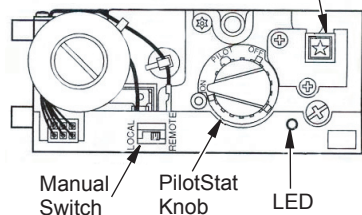

Figure 12 - RF Millivolt Valve Controls with Transmitter/Remote
The RF Millivolt valve control used on these appliances allows you to turn the gas log set on or off; use a timer to automatically operate the log set; increase or decrease flame height, fan speed or timing. An easy-to-read display gives you information about room temperature, set temperature, flame height level, fan speed level and a countdown timer, as well as a low battery indication. Figure 12 shows the location of the controls and indicators for the transmitter (remote) and the receiver (valve).
4. Wait five (5) minutes to clear out any gas. If you then smell gas **STOP!** Follow the safety information above. If you don't smell gas, go on to the next step.
7. Turn PilotStat knob to **ON** See Figure 12, page 9.
1. Move switch to **REMOTE** position (see Figure 12, page 9).